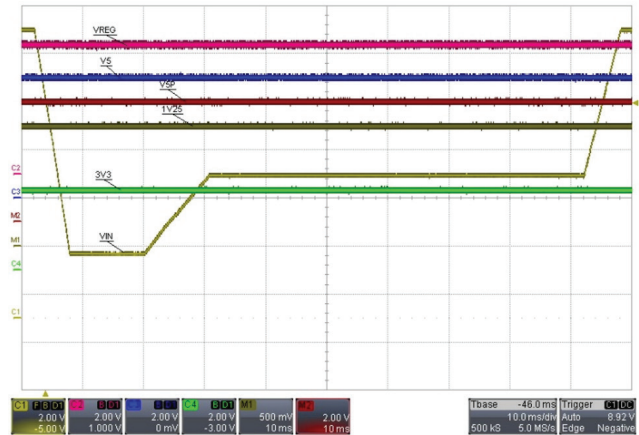
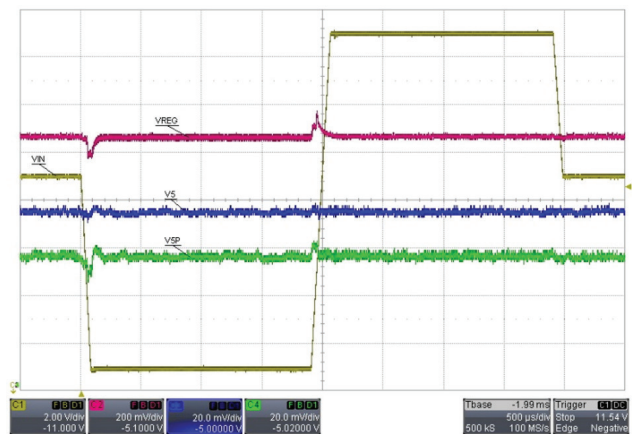
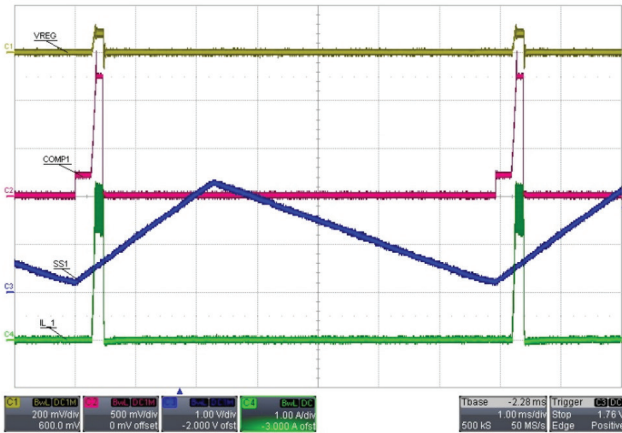

Figure 5: A4408 Buck-Boost operation at full load V_{VIN} slew rates ranging from 0.3 V/ms to 1.6 V/ms Typical of an automotive START/STOP waveform
Figure 6: A4408 Buck-Boost operation at full load V_{VIN} slew rates of 100 V/ms – V5P deviates less than 0.2%
Figure 7: Pre-Regulator Hiccup Mode Operation when VREG is Shorted to GND and $C_{SS1} = 22 \text{ nF}$
The A4408 can maintain its outputs over a wide range of input voltages and slew rates. Actual boost performance is shown in Figure 5 and Figure 6 with voltages swinging between 2.9 and 18 V, and V_{VIN} slew rates ranging from 0.3 to 100V/ms.
6. Hiccup short circuit protection – lab measurement shown in Figure 7 and detailed timing diagram shown in Figure 5